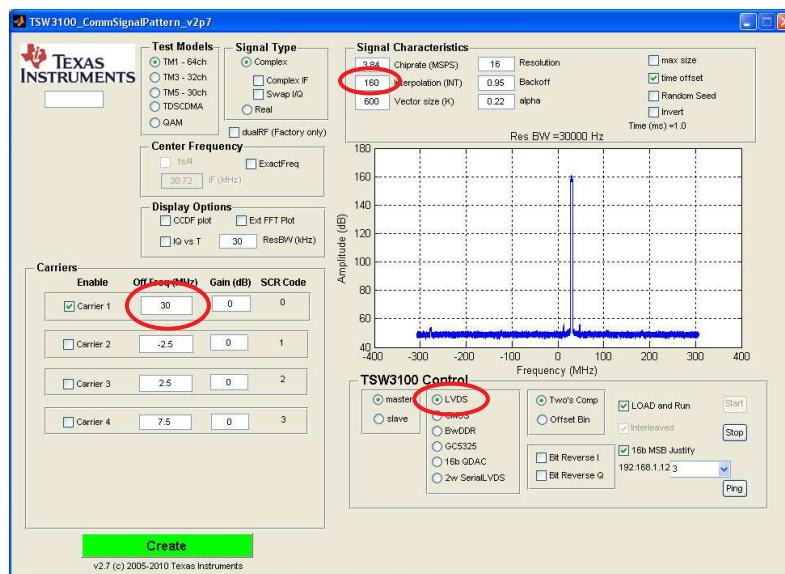

Figure 23. TSW3100 GUI for LVDS DDR Format
- For TSW3085 and TSW30H84, configure the TSW3100 to output a 614.4 MSPS, LVDS DDR format, 30-MHz IF Single-Carrier WCDMA output. See Figure 23 for details.